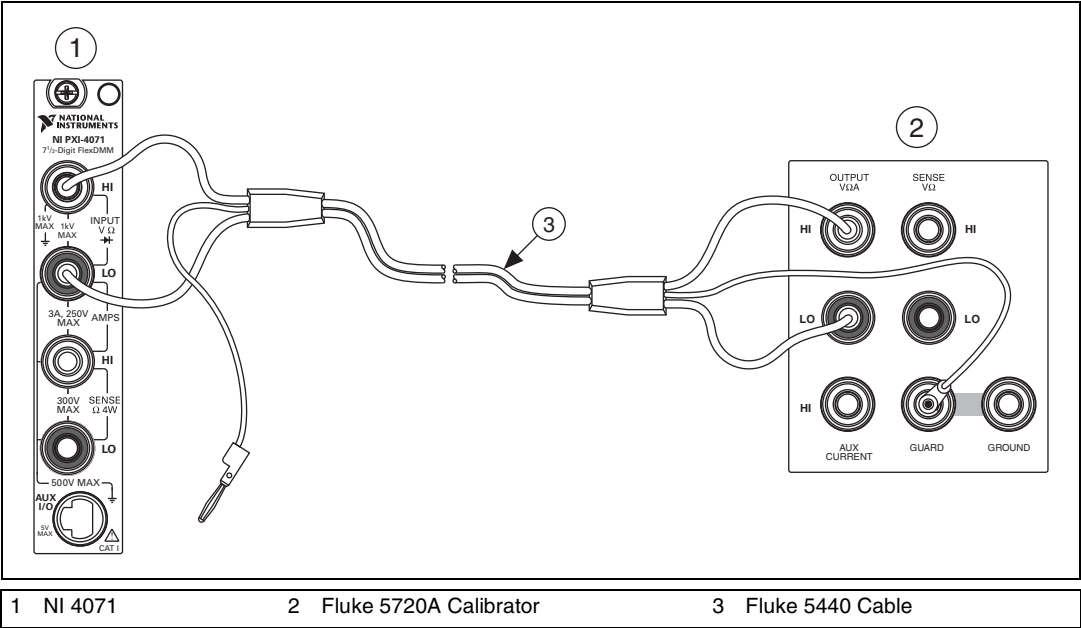

Figure 1. Cable Connections for Voltage and 2-Wire Resistance
29. Connect the NI 4071 and the Fluke 5720A calibrator using the Fluke 5440 cable, as shown in Figure 1. Table 2 lists the cable connections.